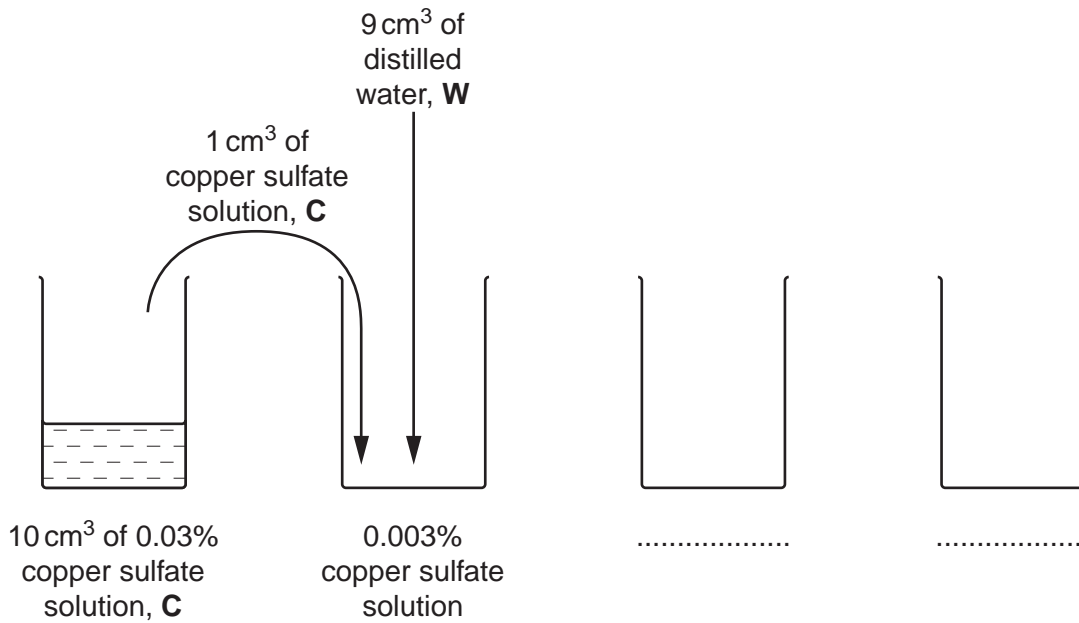

Fig. 1.1
Fig. 1.1 shows how to make the first concentration of 0.003% copper sulfate solution.
- (a) (i) Complete Fig. 1.1 to show how you will make **two** further concentrations of copper sulfate solution. [3]
1. Prepare the concentrations of copper sulfate solution as shown in Fig. 1.1 in the containers provided. Use the syringe labelled '**For copper sulfate**'.